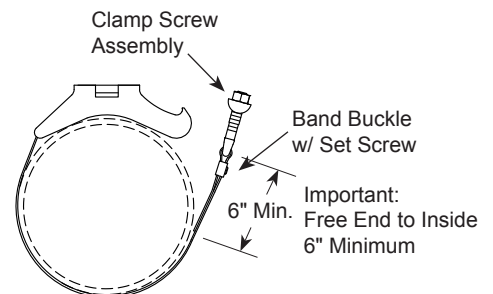

Figure 3
6. Slide a band buckle on the band with the set screw to the outside. (Figure 3)
8. Center the clamp screw on the mark and bend the band to the inside 180 degrees. (Figure 3)
**Note:** Make certain the free end of the band is turned to the inside and is a minimum of 6" long as shown in Figure 3.